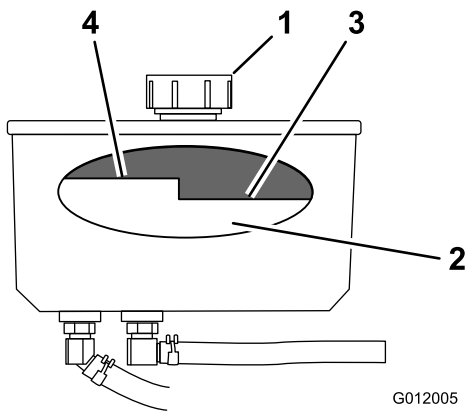

Figure 68
3. Clean the area around the cap and the filler neck of the hydraulic tank (Figure 68).
4. Remove the cap from the filler neck (Figure 68).
Note: The fluid level should be below the hot level of the baffle when the fluid is warm (Figure 68).